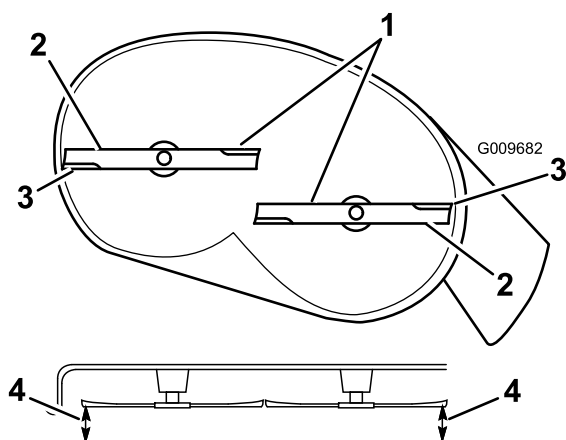
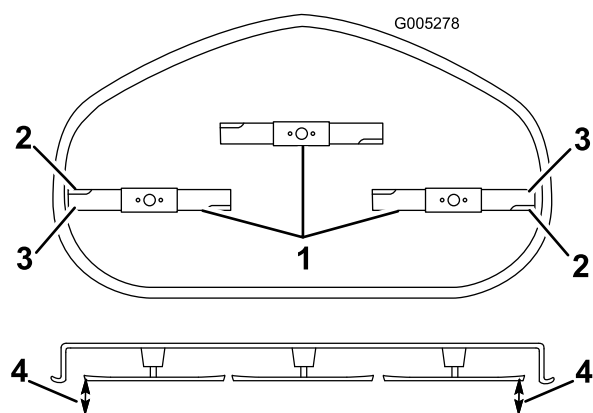

Figure 51
Figure 52
4. Carefully rotate the blade(s) so that they are all side to side (Figure 51 and Figure 52).
- Measure between the outside cutting edges and the flat surface (Figure 51).